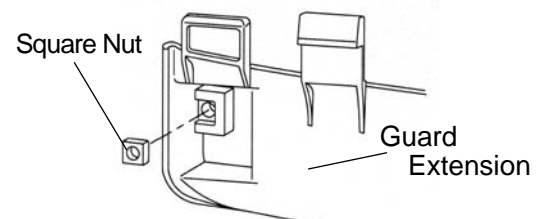
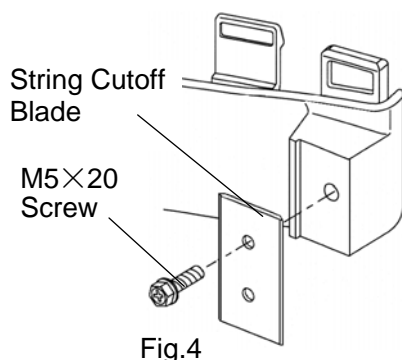

Fig.3
Fig.4
1. Insert the square nut into guard extension as shown on Fig. 3.
2. Attach the String Cutoff Blade to guard extension using M5×20 Screw, locking with square nut (on Fig.3) as shown on Fig. 4.